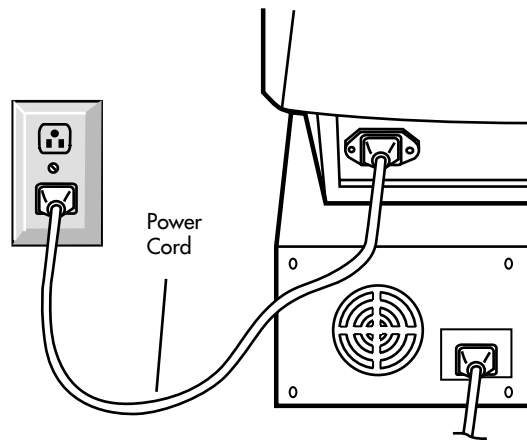

Figure C.1
5. Connect one end of the power cord to the AccuSync125F monitor and the other end to the power outlet (**Figure C.1**).